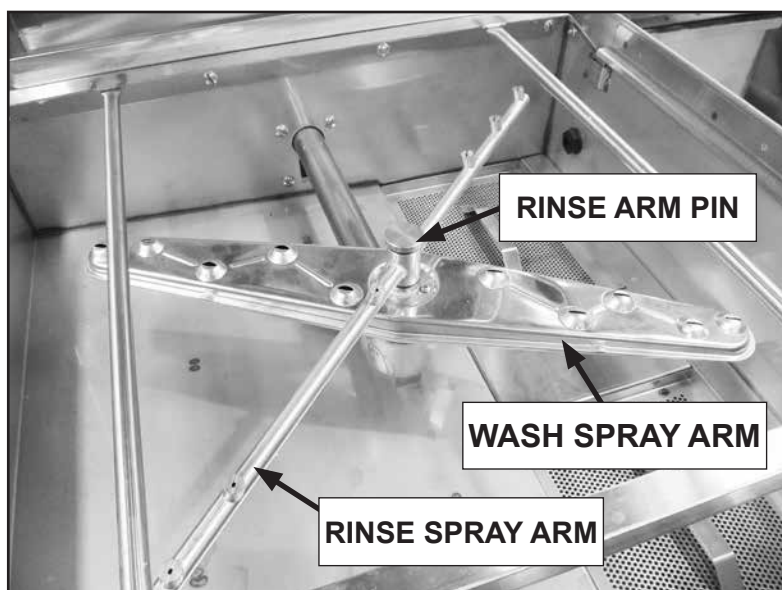

Fig. 2 - Wash and rinse arms
5. Place lower wash arm then rinse arm and secure with the rinse arm pin, (Fig. 2).